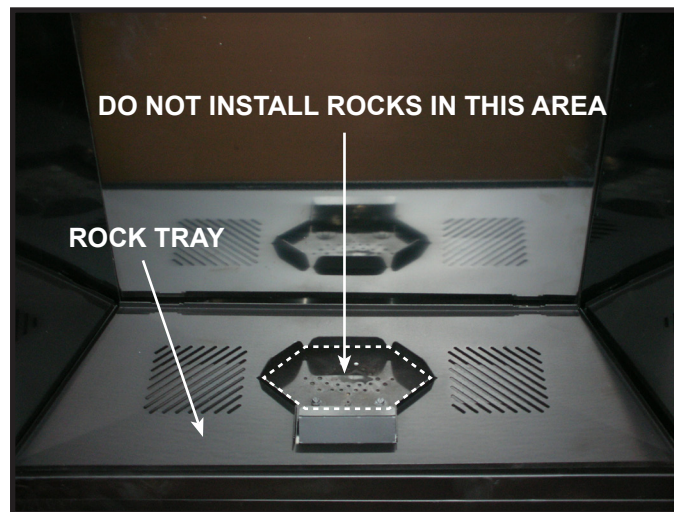
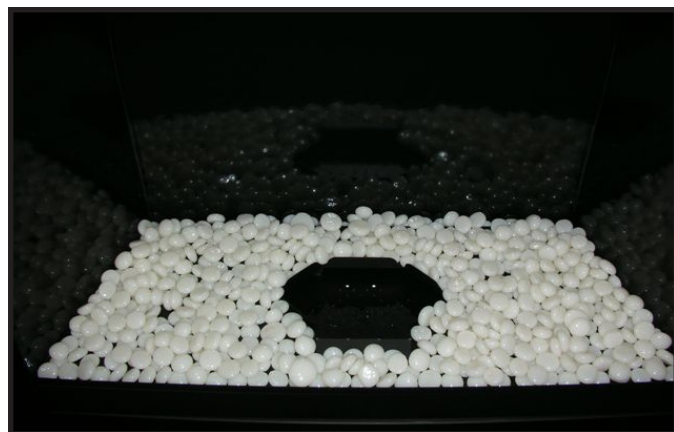

Figure 14.8
Figure 14.9
5. Spread the rock or onyx evenly across the rock tray. See Figure 14.9. **DO NOT** place rocks in burner area or in front of pilot burner. See Figure 14.8.